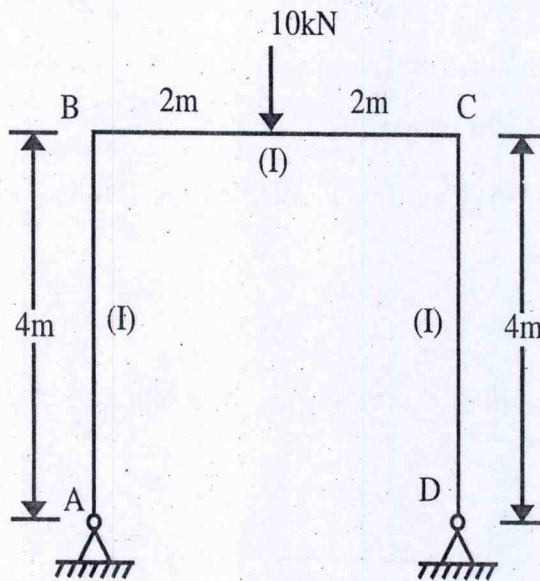

Fig.4
- Q.3 A portal frame ABCD is hinged at A and D and has rigid joint B and C. The frame is loaded as shown in Fig. 4 using the method of minimum strain energy. Analyze the frame and plot the bending moment diagram. EI is constant for whole frame. [16]